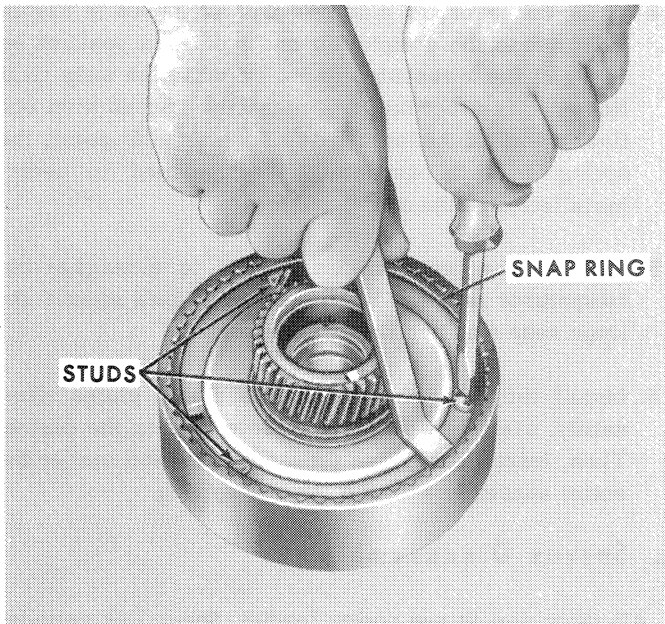

Figure 90
3. Using the N-488-3 Lever and a screwdriver, as shown in Figure 90, engage the lowest step of each stud to the snap ring. Repeat this operation for engaging the second step and then the third step of each stud. At this point, the pressure of the spring washer against the snap ring will have been eliminated and the spiral retainer can be removed.
4. Using the lever and a screwdriver, as shown in Figure 90, depress the compressor and hold it in position by engaging the lowest step in each stud to the snap ring. Repeat this procedure to engage the second step and finally the third step of each stud. At this point, the spring will be sufficiently compressed to permit installation of the spiral retainer.